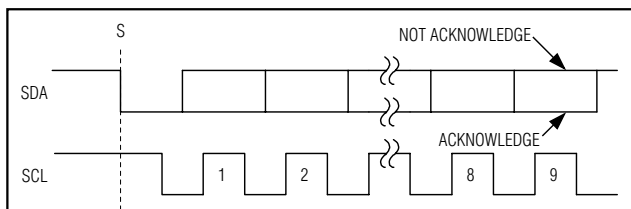

Figure 6. Acknowledge Bits
Data transfers are acknowledged with an acknowledge bit (A) or a not-acknowledge bit (A). Both the master and the MAX1236-MAX1239 (slave) generate acknowledge bits. To generate an acknowledge, the receiving device must pull SDA low before the rising edge of the acknowledge-related clock pulse (ninth pulse) and keep it low during the high period of the clock pulse (Figure 6). To generate a not-acknowledge, the receiver allows SDA to be pulled high before the rising edge of the acknowledge-related clock pulse and leaves SDA high during the high period of the clock pulse. Monitoring the acknowledge bits allows for detection of unsuccessful data transfers. An unsuccessful data transfer happens if a receiving device is busy or if a system fault has occurred. In the event of an unsuccessful data transfer, the bus master should reattempt communication at a later time.